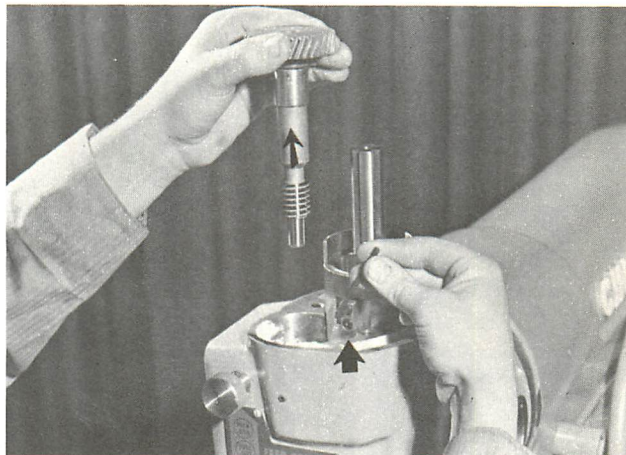

FIGURE 15A
5. Remove two set screws (163B, 162B, page 32) from side of spindle housing. Replace handle hub (190B, page 34). Rotate handle (196B) to raise sleeve (144B, page 32) and, by knocking it against driven gear (115B), force worm shaft (118B) up out of spindle housing. [See Figure 15A.] Pull out pinion shaft (183B, page 34).